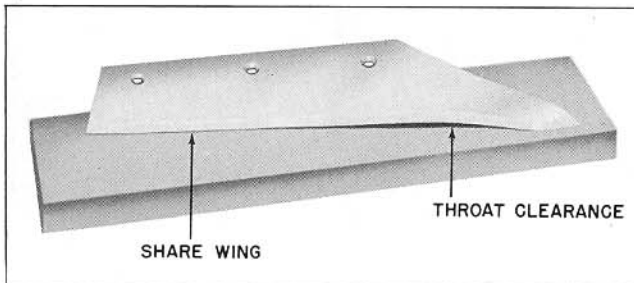
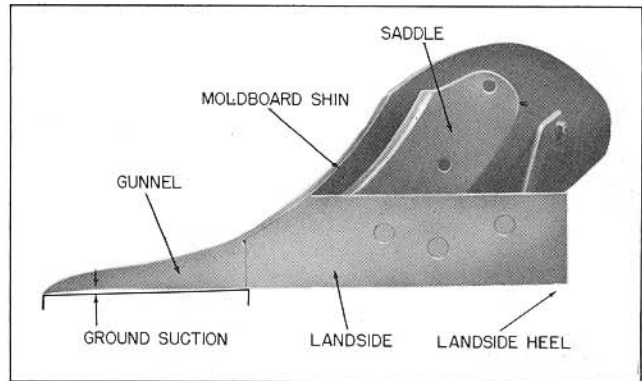

Fig. 12 Throat Clearance
Fig. 13 Ground Suction
3. Set the throat clearance and ground suction, Fig. 12 and Fig. 13, in the point of the share by reheating it to a dull red, laying the point over the edge of the anvil and hammering it downward.
The ground suction, Fig. 13, should be about 3/16 in. measured at the gunnel with the point and heel of the gunnel laying on the anvil.
The throat clearance should be at least 1/8 in. measured from the cutting edge to the anvil, Fig. 12. The wing of the share should have no contact with the anvil except at the cutting edge. In other words, the share wing does not need wing bearing to make it function properly.